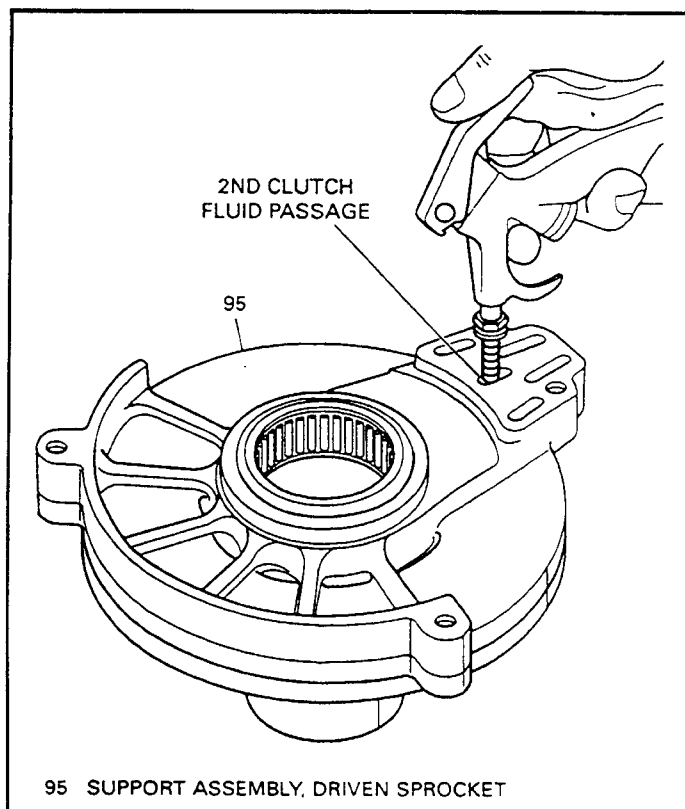

Figure 160
9. Air check the 2nd clutch to verify proper operation of the seals, as shown in Figure 160.